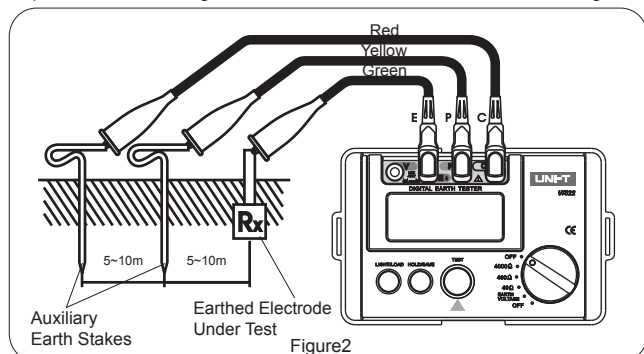

Figure 2
- Insert P and C earth stakes deep into the soil, make sure the earth stakes and tested object are in a straight line and at a distance of 5m~10m from each other. See Figure 2 for the wire connections